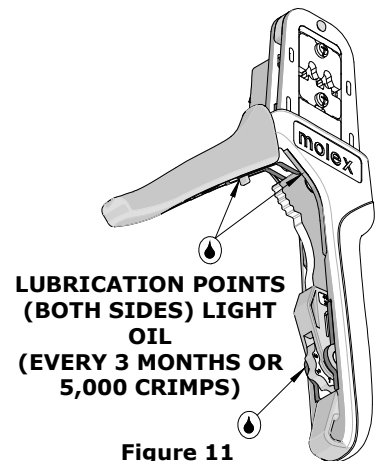

Figure 11
3. Make certain all pins, pivot points and bearing surfaces are protected with a thin coat of high-quality machine oil. Do not oil excessively. The tool was engineered for durability, but like any other equipment, it needs cleaning and lubrication for a maximum service life of trouble-free crimping. Light oil (such as 30 weight automotive oil) used at the oil points every 5,000 crimps or 3 months will significantly enhance the tool life. See Figure 11.